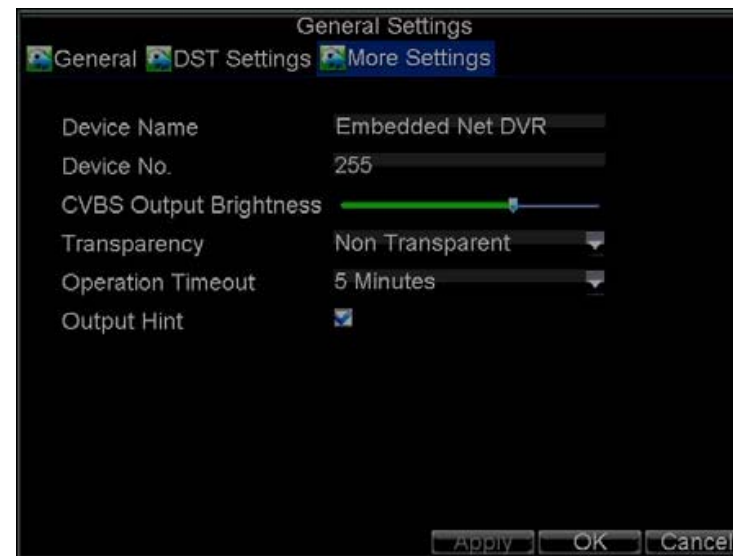

Figure 14.2. More Settings Menu
2. Click the **More Settings** tab to enter the More Settings menu, shown in Figure 14.2.